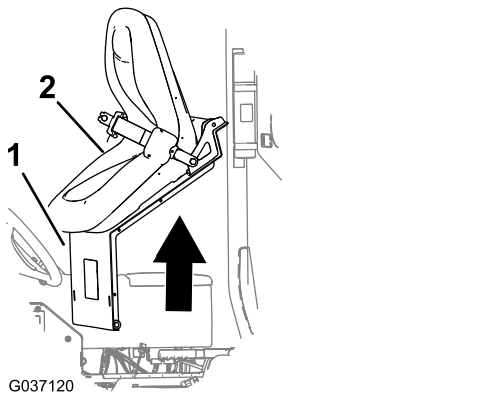

Figure 8
- Lift the seat and seat plate up and out of the machine (Figure 8).